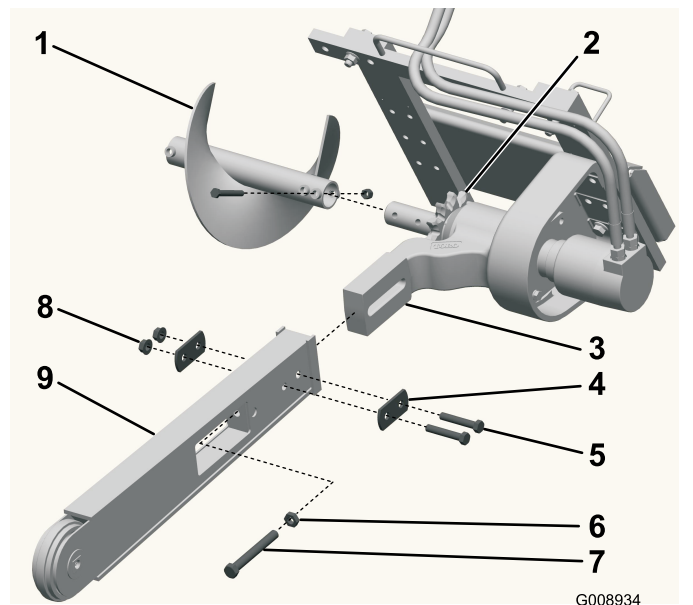

Figure 3
3. Remove the bolt and nut securing the spoils auger and remove the auger (Figure 3).
4. Remove the 2 bolts, nuts, and double washers from the sides of the boom (Figure 3).
5. Loosen the adjusting bolt and jam nut (Figure 3).